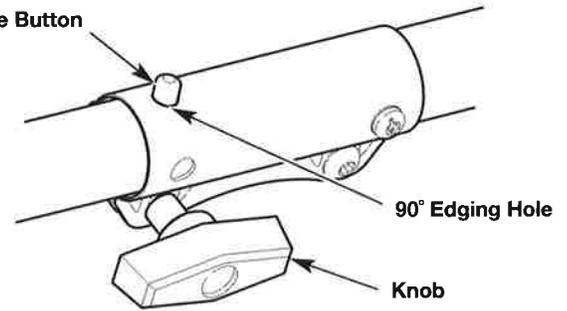

Fig. 13
1. Turn the knob counterclockwise to loosen the coupler (Fig. 13).
2. Press and hold the release button (Fig. 13).
3. Rotate the attachment until the release button snaps firmly into the 90° edging hole (Fig. 13).
4. Turn the knob clockwise to tighten the coupler (Fig. 13).